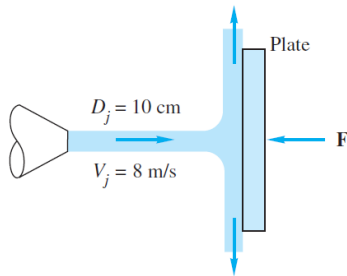

Fig. 3.14
3.14 The water jet in Fig. 3.14 strikes normal to a fixed plate. Neglect gravity and friction, and compute the force F in newtons required to hold the plate fixed.